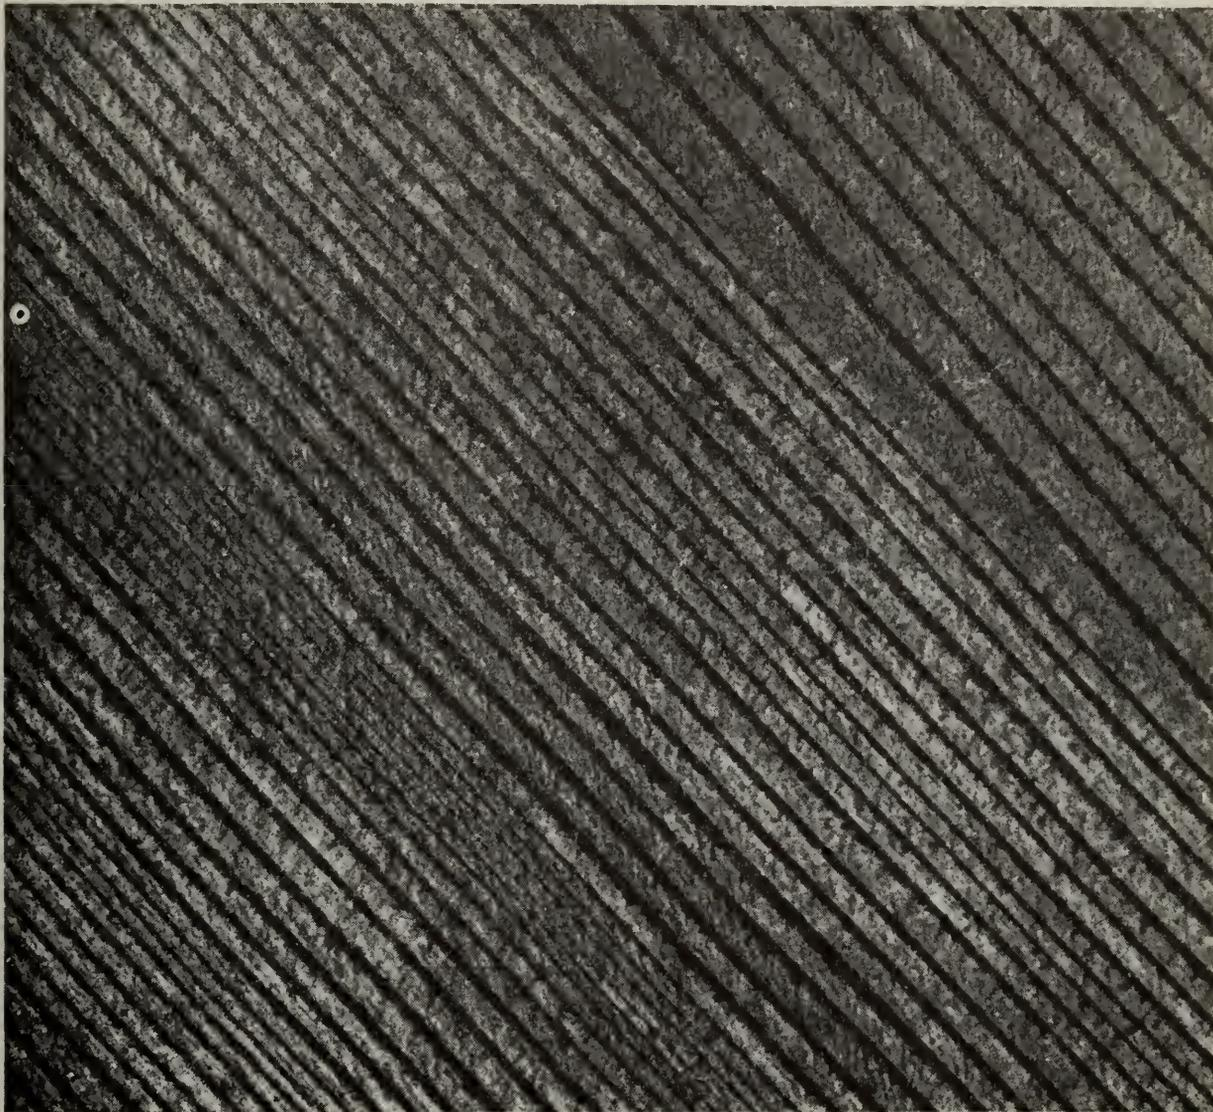

FIG. 30
F. E. Morton: "This is photographed from a fir sounding board which has been used for some time, and here is the board from which this photograph was taken. (Fig. 30.) Will you describe the vibratory action and construction?"